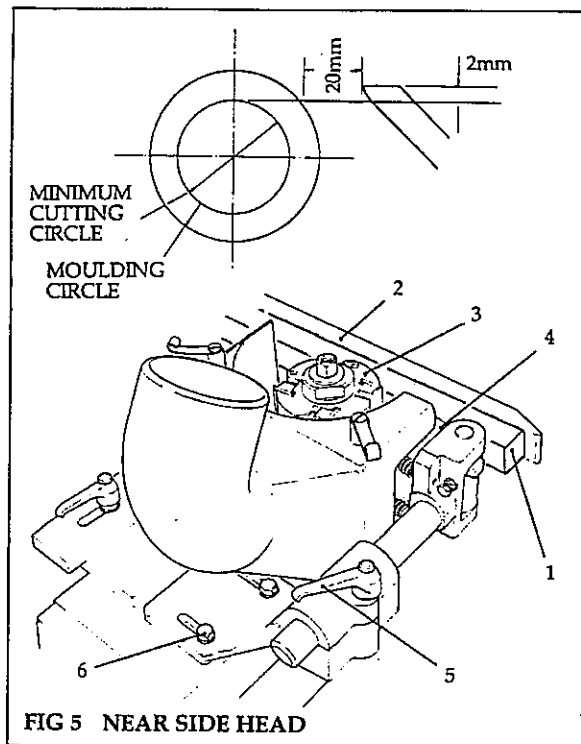

FIG 5 NEAR SIDE HEAD
Near Side Head (Fig 5)
- a. Release locking handle (13).
- b. Rotate handscrew (15) clockwise to advance the spindle or anticlockwise to retract the spindle.
- c. Refasten locking handle (13).
- (3) Set the chipbreaker (4) as follows:
- b. Release the locking handle (5)
- c. Adjust the chipbreaker (4) so that it clears the smallest cutting circle by approximately 2mm (Fig 5).
- d. Refasten the locking handle (5).
- e. Unscrew the bolts (6) and adjust the chipbreaker (4) to suit the cutterblock diameter so that it clears the cutterblock by 20mm (Fig 5).
- f. Retighten the bolts (6).